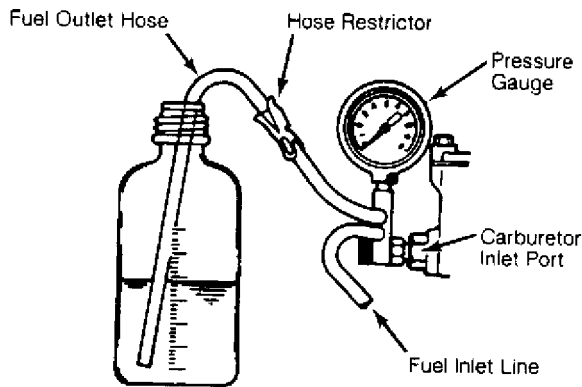

Fig. 1: Fuel Pump Pressure and Volume Test
1) Remove air cleaner assembly and disconnect fuel line at carburetor. Connect pressure gauge with restrictor and a flexible hose. See Fig. 1. Turn ignition on and briefly vent the system into container by opening hose restrictor.